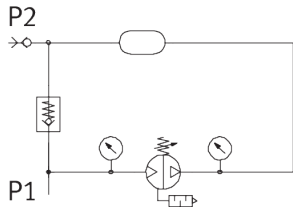

Fig. 2: Pneumatic circuit diagram installation
- Pressurise port P1 → Fig. 2.